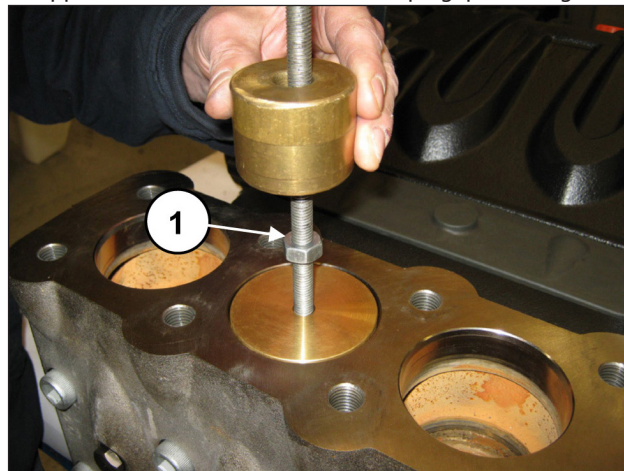

Fig. 102
Extract the valve plug with the use of an extractor hammer to be applied on the M10 hole of the valve plug (pos. ①, Fig. 102).